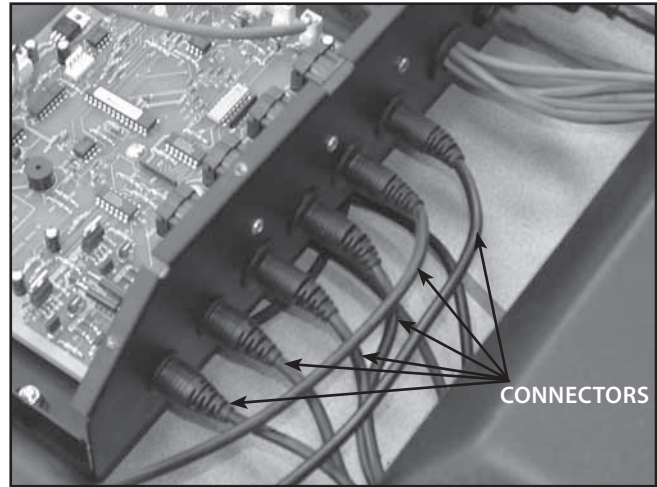

FIGURE 5.9
3. While wearing the Grounding Strap, remove all external connectors from the Control Board. See Figure 5.9.